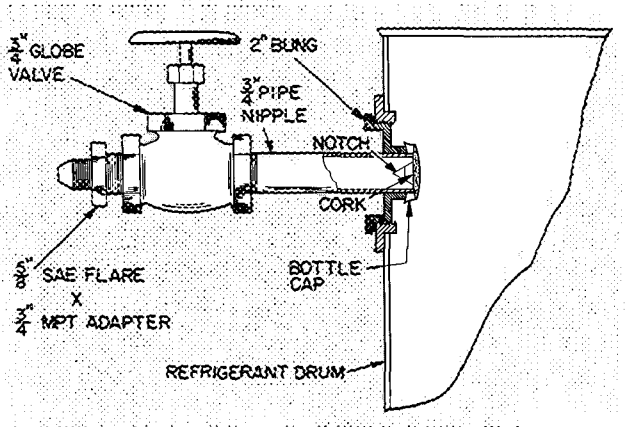

Fig. 5 – Drum Charging Valve
1. Install a charging valve in the 3/4-in. drum opening as shown in Fig. 5.